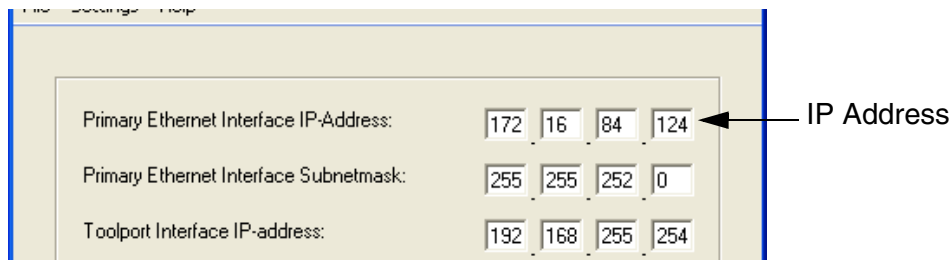

Figure 59. IP Config window for setting unique IP address
4. Enter a unique IP address (obtainable from the Control Network Administrator). Example: 172.16.84.124, see Figure 59.